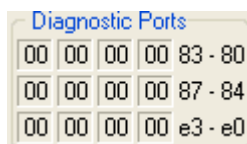

Figure 14-2: Diagnostics Display
4. View the Diagnostic Port Output in the Main Window, as shown in Figure 14-2.